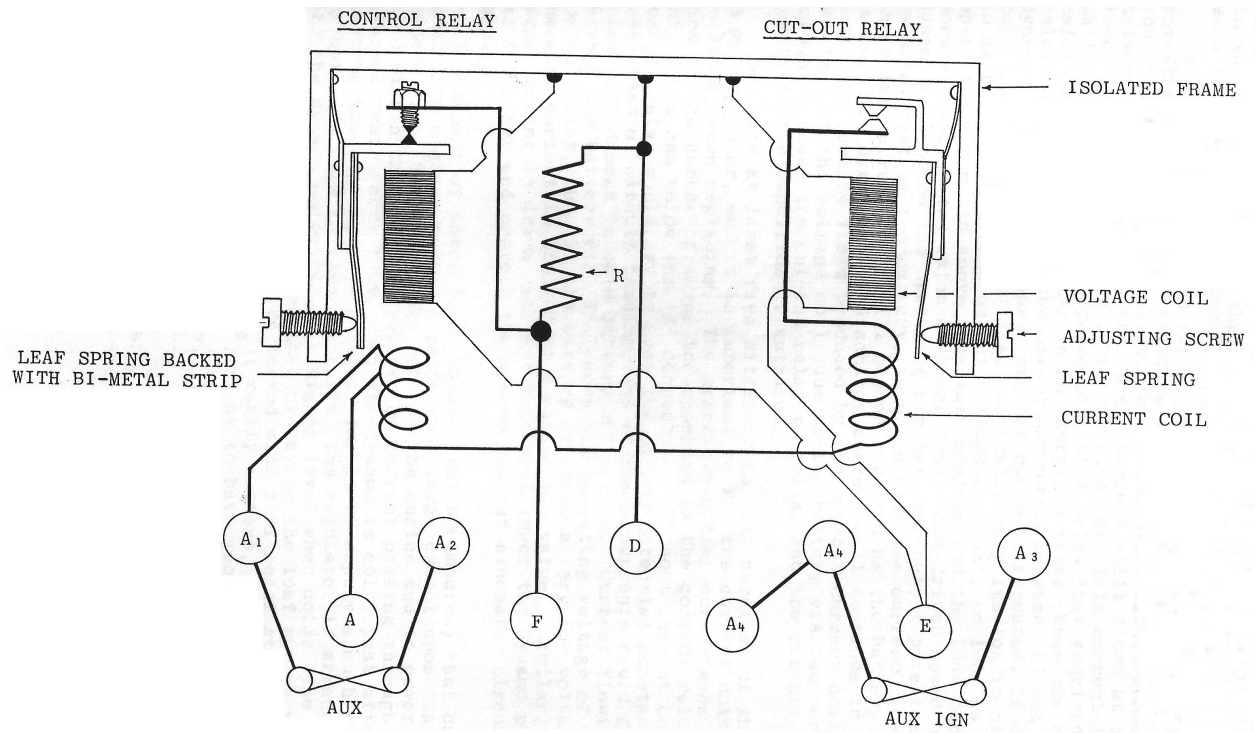

Fig.61
Fig.61 shows a voltage regulator type RF 95. Due to the difficulty of combining a circuit diagram and a mechanical drawing, the former is correct, while considerable license is used on the latter. It should perhaps be explained that the metal frame supporting both relays acts as a common electrical path isolated from earth. The relays are shown as they would be with the engine stopped or running slowly, i.e. they are both relaxed, and in this condition the contacts of the cut-out are open, while those of the control relay are closed. Both relays are similar in that they have two windings, one of many turns of fine wire which draws little current and causes the relay to operate at a specific voltage, and one of few turns of heavy gauge wire which is current dependent. If the currents in both voltage and current windings are flowing in the same direction, the effect is additive. On the other hand, if both currents are in opposition a contrary effect will result.
As can be seen on Fig.61, the dynamo output is routed from 'D' via the isolated frame to both relay voltage coils. At idling speed the dynamo voltage is too low to energise either relay, so the closed contacts of the control relay make direct connection between 'D' and 'F', while the open contacts of the cut-out ensure that all the 'A' terminals are isolated from the dynamo. An increase in engine speed will cause the dynamo voltage to rise, and eventually, at a level just above battery voltage, the cut-out will energise and allow current to flow via the relay current coils to the external circuits. Once the cut-out is closed, both relay voltage coils are held at battery potential, however, the sudden slight reduction of level should not cause relaxation for a combination of two reasons.
7. If not within the above limits adjust by turning the screw, locked with a spring and paint, above the control relay clockwise to increase, or anti-clockwise to decrease the voltage. This screw is the one that bears on the leaf spring backed with the bi-metal strip. (See Fig.61)